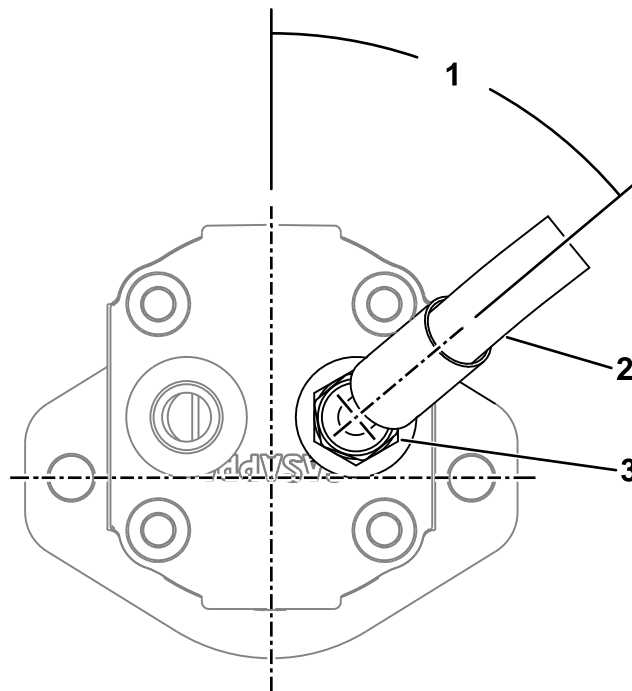
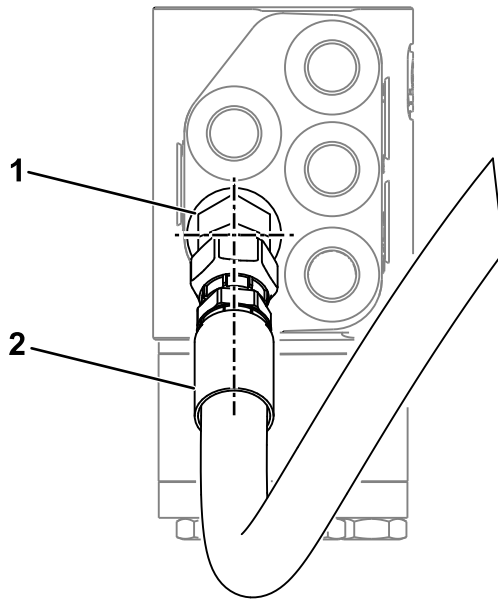

Figure 11
Figure 12
2. Connect the 45° hydraulic-hose fitting to the new straight fitting and orient it at 50° as shown in Figure 11.
4. Connect the straight hydraulic-hose fitting to the new 45° fitting as shown in Figure 12.
6. Ensure that the hose and fittings are aligned as shown in Figure 11 and Figure 12 and that there is no twist in the hose when routed next to the existing hydraulic lines.